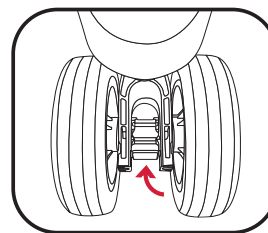

Fig 4
6. Push the quick release lever back up until it firmly clips in to place (fig. 4)